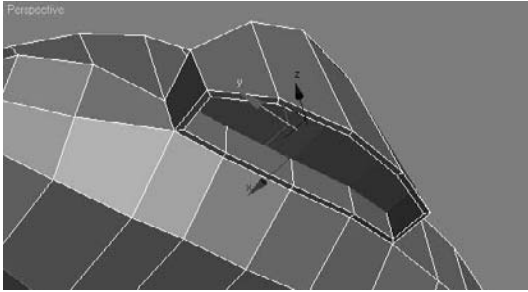

Figure 5.32
2. Enter Polygon Selection mode. Select the polygons at the bottom side of the wheel well, as shown in Figure 5.32.